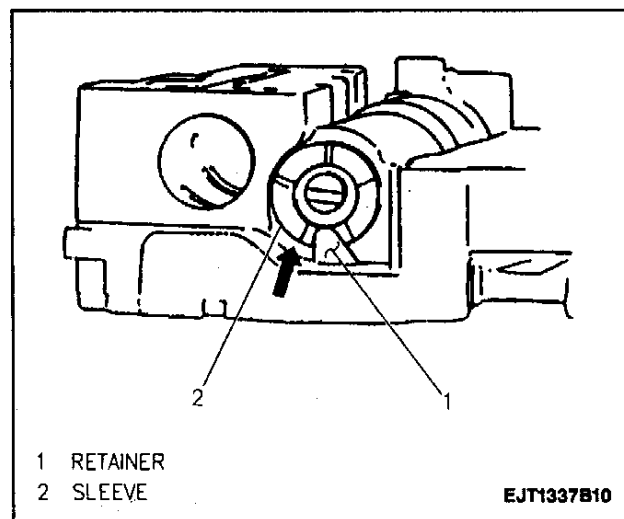

Figure 101—Primary Regulator Valve Retainer and Sleeve
- There are four step positions on the primary regulator valve sleeve. Note the position of the primary regulator valve sleeve for reassembly (Figure 101).